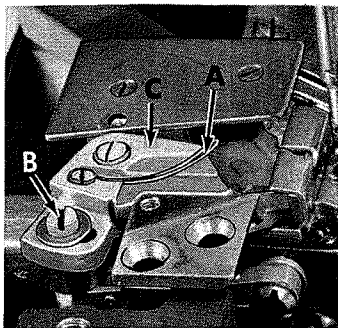

Fig. 19
**CAUTION!** When removing screws (B) the lower knife is being held against the bottom of the upper knife (C) by spring (A, Fig. 19) and will come out of place when upper knife is removed.
(2) Loosen screw (B, Fig. 19) and move lower knife holder (C, Fig. 19) forwards or backwards for correct knife travel, with the knife at its farthest travel to the right.